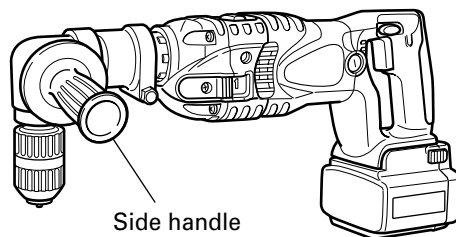

Fig. 14
- (3) Installing the side handle and handle joint (Fig. 14)